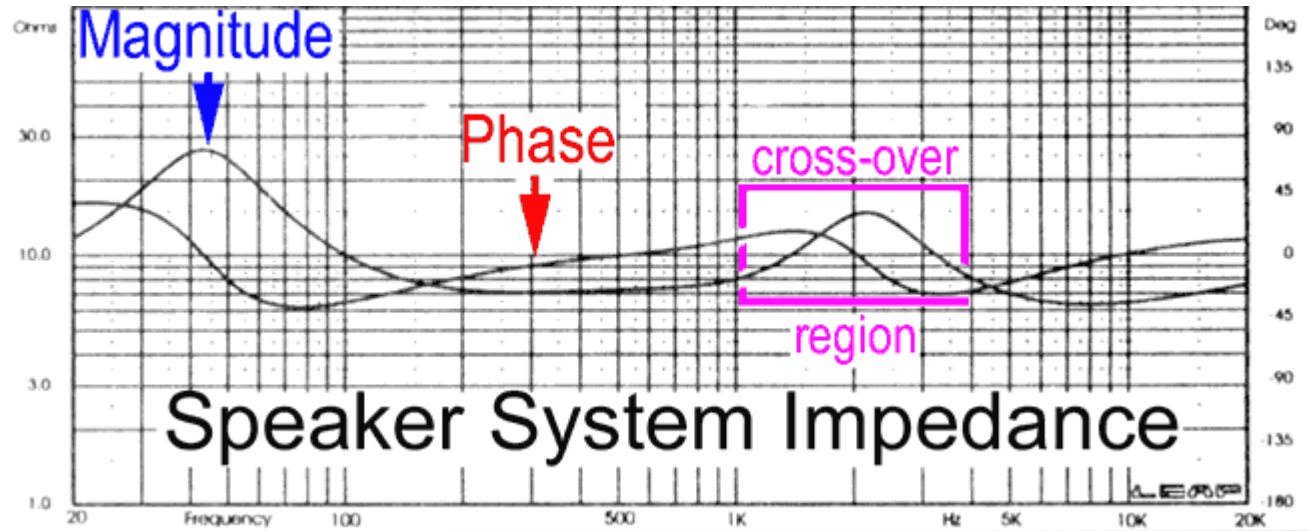

Figure 1: Sweeping an oscillator through a two-way speaker system generates these very typical impedance and phase variations
published AC impedance will typically be 4, 8 or 16 ohms, often referred to as “nominal,” because the magnitude changes with frequency and is therefore averaged. The DC resistance will be a different number. As you can see in Fig. 1, both impedance (the blue arrow) and phase (the red arrow) meander across the frequency spectrum for a passive, two-way monitor system. Note that the combined woofer and cabinet resonance raises the impedance to a whopping 25 ohms at about 45 Hz!
either ported (bass reflex) or relatively airtight (air suspension). The speaker's nominal electromechanical impedance is at least a factor of 10 higher than that of the amplifier's source impedance. The ratio of the two is called the Damping Factor (DF), which is responsible for keeping the bump in Fig. 1 under control, unless the cable resistance becomes a contributing factor.
That impedance varies with frequency should be more tangible now, what about phase? The magenta square in Fig. 1 shows how a crossover network—consisting of inductors, capacitors and resistors—affects both impedance and phase response, but to make it more tangible...